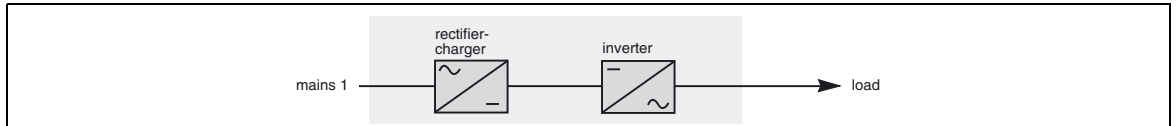

Fig. 5
- Frequency converter without backup power: (figure 5)